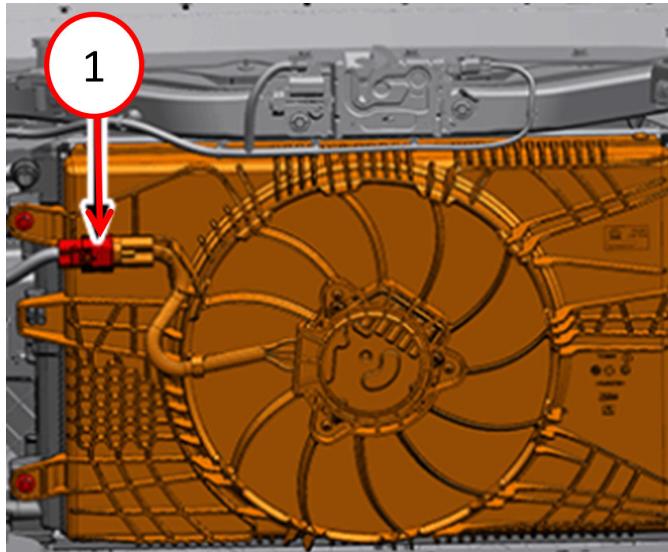

Fig. 1
4. Disconnect the cooling fan wire harness connector Fig. 1.
19. Connect the cooling fan wire harness connector Fig. 1.